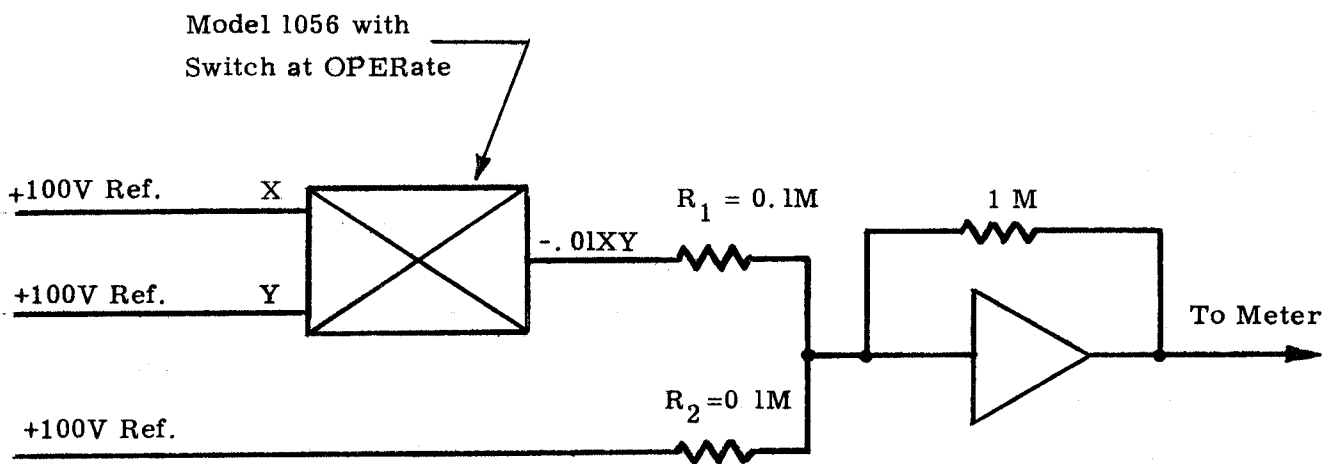

Figure 1
4. The last adjustment determines the value of K in the output expression KXY . Ideally, the adjustment should be made to achieve a minimum average error for all combinations of X and Y input voltages. If the first three adjustments have been made carefully, the static error may be held within 0.5% by setting K at .01 for only one combination of X and Y voltages. Apply +100 volts to both X and Y inputs and connect the multiplier and a +100 volt reference source to a summing amplifier as shown in Figure 1.
summer inputs reversed as it does when the inputs are connected as diagramed in Figure 1.